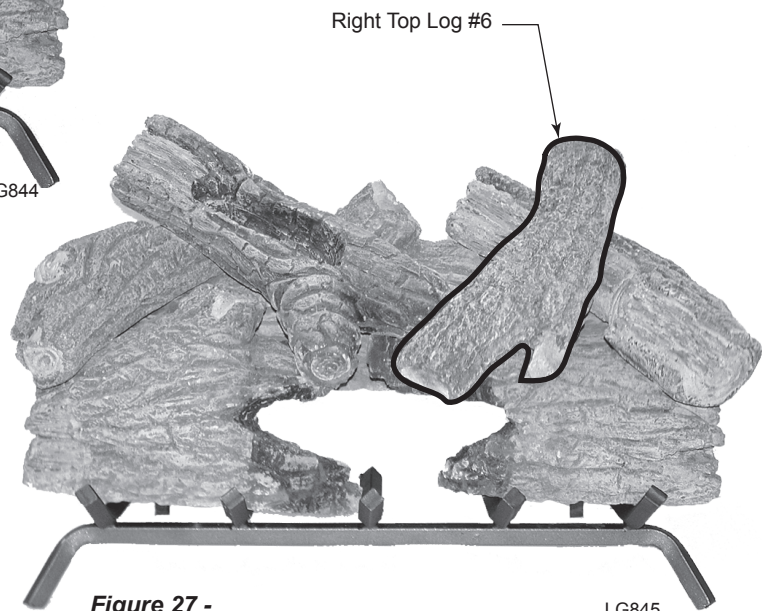

Figure 27 - Place Right Top Log
- 8. Place right top log #6 as shown. *Figure 27*